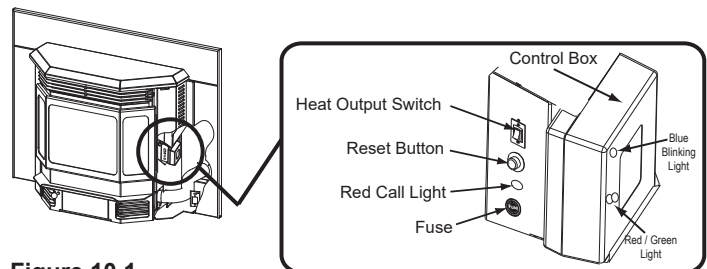

Figure 10.1
The appliance is like most modern furnaces; when the thermostat calls for heat, your appliance will automatically light and deliver heat. When the room is up to temperature and the thermostat is satisfied, the red call light will shut off and the appliance will shut down (**Figure 10.1**).
3. Locate the heat output control switch on the lower right side of the firebox in front of the right access panel. Set to the HIGH setting and then adjust the thermostat to its highest setting. The red call light will be on which is located on the front of the junction box behind the left access panel. This indicates the thermostat is calling for heat (**Figure 10.1 on page 10**).
3. Occasionally the appliance may run out of fuel and shut itself down. When this happens, the red call light will be on (**Figure 10.1 on page 10**). To restart it, fill the hopper and press the reset button. When you press the reset button the red call light will go out. Release the button and the light will come back on. You should see a fire shortly. If not, follow the instructions on page 11, "Starting Your First Fire".